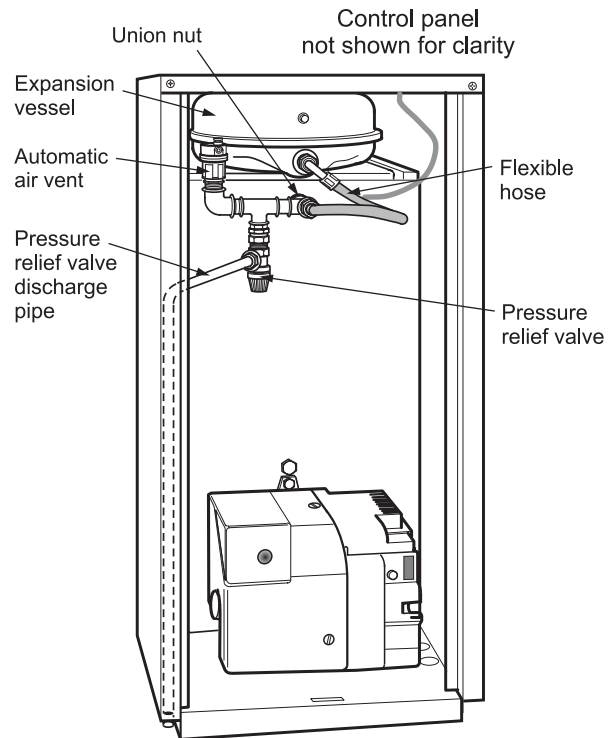

Fig. 15
See Figs. 15, 15a and 15b
- Connect the relief valve/automatic air vent assembly to the $\frac{3}{4}$ " connector, using the sealing washer and secure in position by tightening the union nut. See Fig. 15.
- 1 An automatic air vent is fitted to the top of the boiler (see Fig. 15 or 15c). Check that the small cap on the top of the air vent is screwed on fully, then unscrew it one complete turn - the cap remains in this position from now on.
- 8 Check the operation of the pressure relief valve (see Fig. 15 or 15c) by turning the head anticlockwise until it clicks. The click is the valve lifting off its seat allowing water to escape from the system. Check that this is actually happening, and water flows unobstructed from the relief discharge pipe.